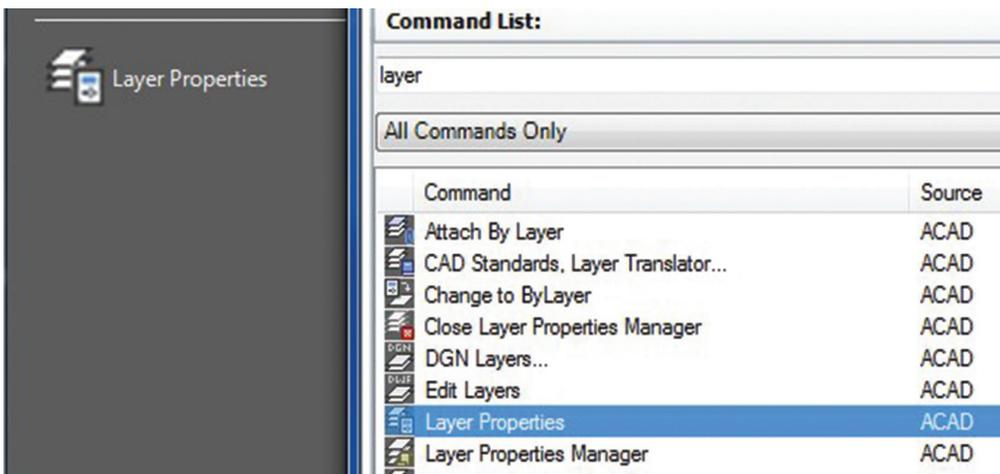

Figure 12
2. With your tool palette open, left-click and drag the Layer Properties Command onto your palette. Note: we only want to get the image and the start of the command in there. Figure 12 shows the layer command added to a blank palette.
3. Right-click your layer command in the palette (Figure 12) and select properties.